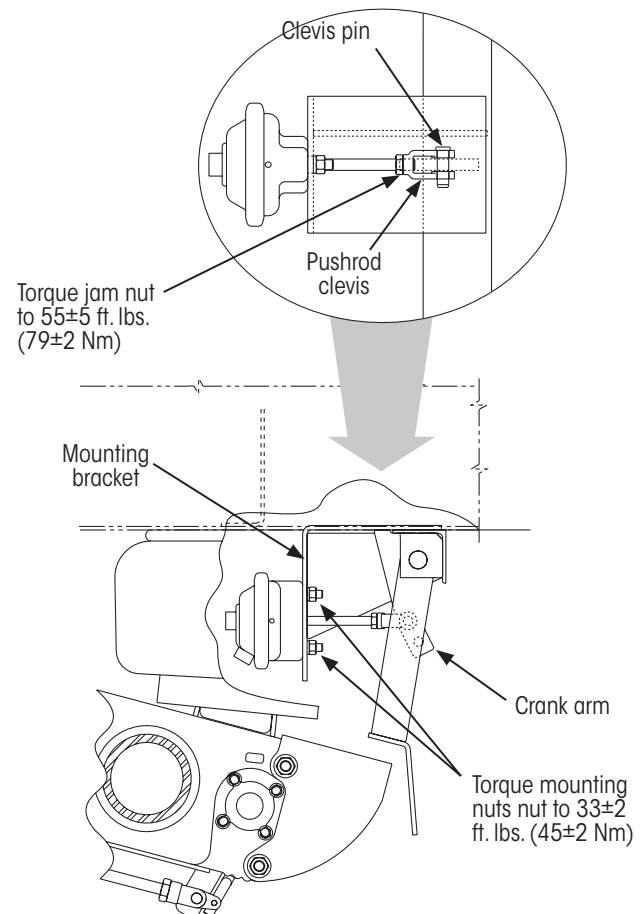

Figure 46: INTRAAX® stationary brake chamber installation details
2. **Slide** the brake chamber pushrod through the mounting bracket (Figure 46). Align the pushrod clevis with the top hole in the crank arm. Insert the clevis pin through the clevis and crank arm. Secure the clevis pin with a cotter pin.
3. **Tighten** the brake chamber mounting nuts (Figure 46) to  $33\pm 2$  ft. lbs. ( $45\pm 2$  Nm) of torque.